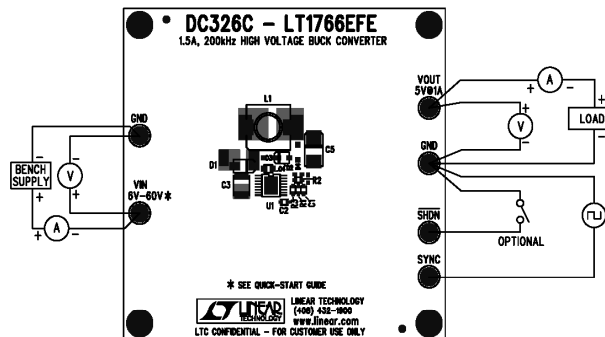

Figure 1. Proper Measurement Equipment Setup
Demonstration circuit 326C is easy to set up to evaluate the performance of the LT1766EFE. Refer to Figure 1 for proper measurement equipment setup and follow the procedure below:
1. Connect the power supply (with power off), load and meters as shown in Figure 1.